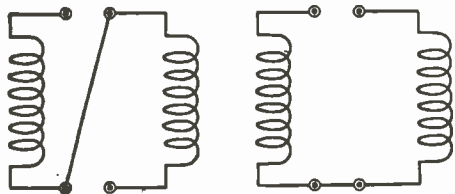

Fig. 1
series (see Fig. 1) the resultant total inductance is not given by the sum of these individual inductances, but depends upon the manner in which they are connected together. If they are so connected that their magnetic fields reinforce one another then the resultant total inductance is found by mathematical analysis to be given by the equation
of the two coils to each other (see Fig. 1) without altering the relative position of the coils, in which case the same coupling will be maintained and the coils will be connected so that their magnetic fields oppose each other. Again measure the total inductance of the two coils in series as above and call this value L_B . Now L_A and L_B are given by the equations (1) and (2) above, respectively. If we subtract equation (2) from equation (1) we will get